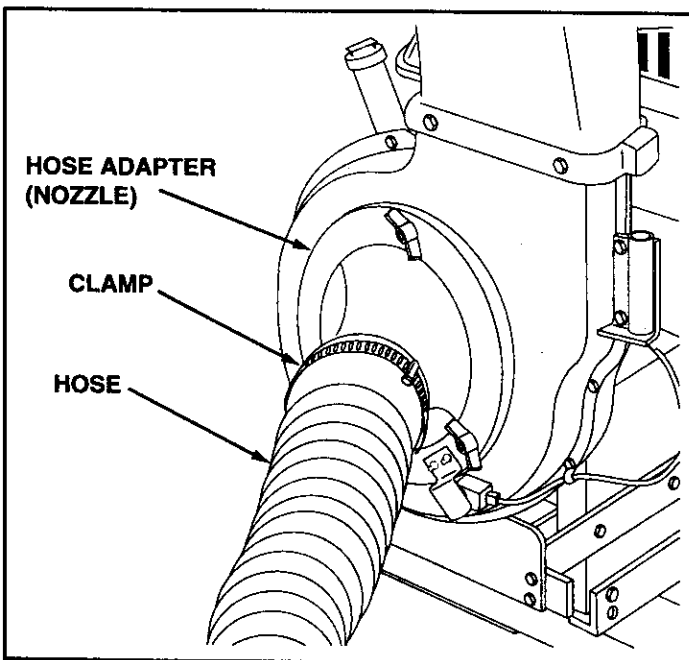

FIGURE 25
- Place a hose clamp onto the end of the hose. Push the hose onto the hose adapter (nozzle). Tighten the hose clamp onto the hose and hose adapter. **Do not collapse the hose adapter when tightening the clamp.** See figure 25.